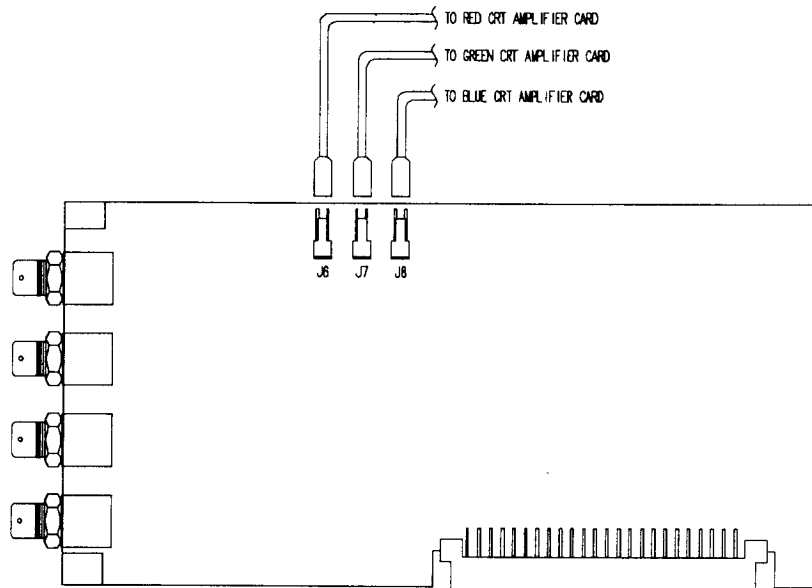

FIGURE 9-4. RGB1 module replacement.
- STEP 3. On the RGB1 module (second module from the left, as viewed from the rear). Remove the three (3) mini coax cables located midway on the module. See Figure 9-4.
- STEP 4. Remove the two (2) each 4-40 phillips screws securing the RGB1 module to the rear panel, lift the RGB1 module straight up and out.
- STEP 6. Re-connect the three (3) mini coax cables, in their proper order to their respective connectors on the RGB1 module. See Figure 9-4.